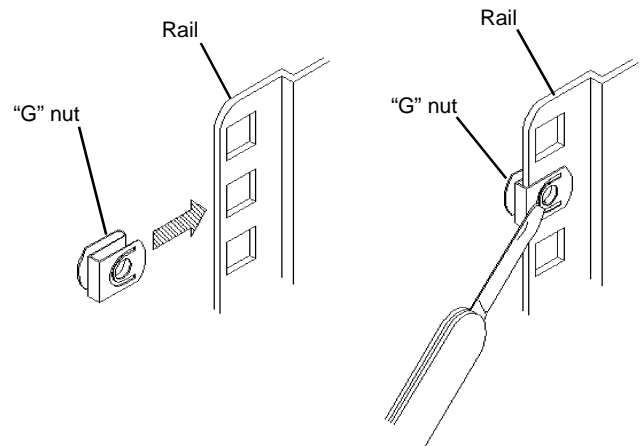

Figure 5
1. "G" Nuts have a front or screw side. Consider which way it should face for ease of access to the screw head during component installation. See **Figure 5**.
2. To remove a "G" Nut from a rail, insert a flat blade screwdriver or a knife under the tab on the front and pry up, freeing the retaining ring from the rail. See **Figure 5**.